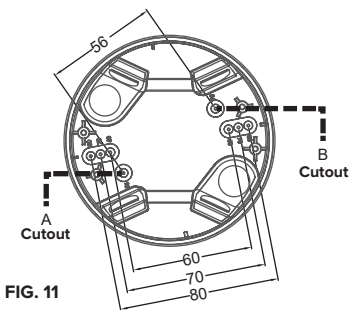

FIG. 11
- Determine the correct distance of the mounting screws in the surface-mounted housing for mounting on a main distribution point. For this purpose, 4 pairs of recesses have been made in the housing, varying in distance from 56 to 80 mm so that the housing can always be mounted correctly on various built-in points. To do this, select a hole with the same distance on both sides (see also FIG. 11).